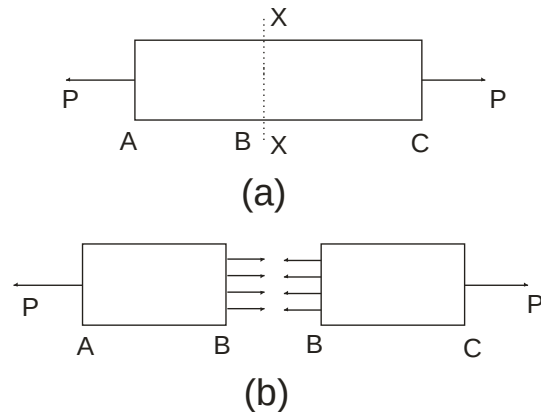

Fig. 1.1
**1.2 Stress:** When an external force or load is applied on a body internal resistance is set up. Let us consider a bar acted upon by a Force P along its axis as in Fig 1.1(a). If the bar AC is cut in two sections at B, it results in Fig 1.1(b). The externally applied forces to one side of the cut part must be balanced by internal forces developed at the cut.